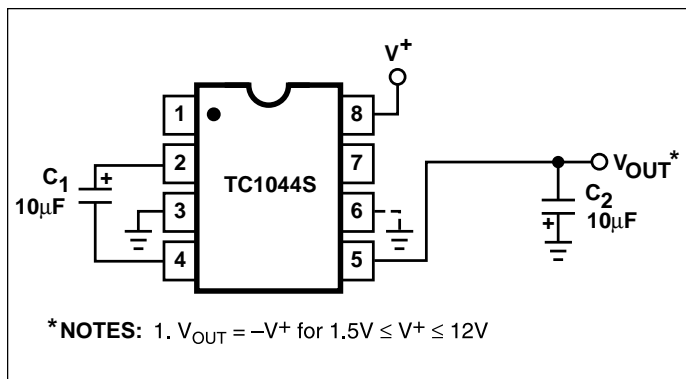
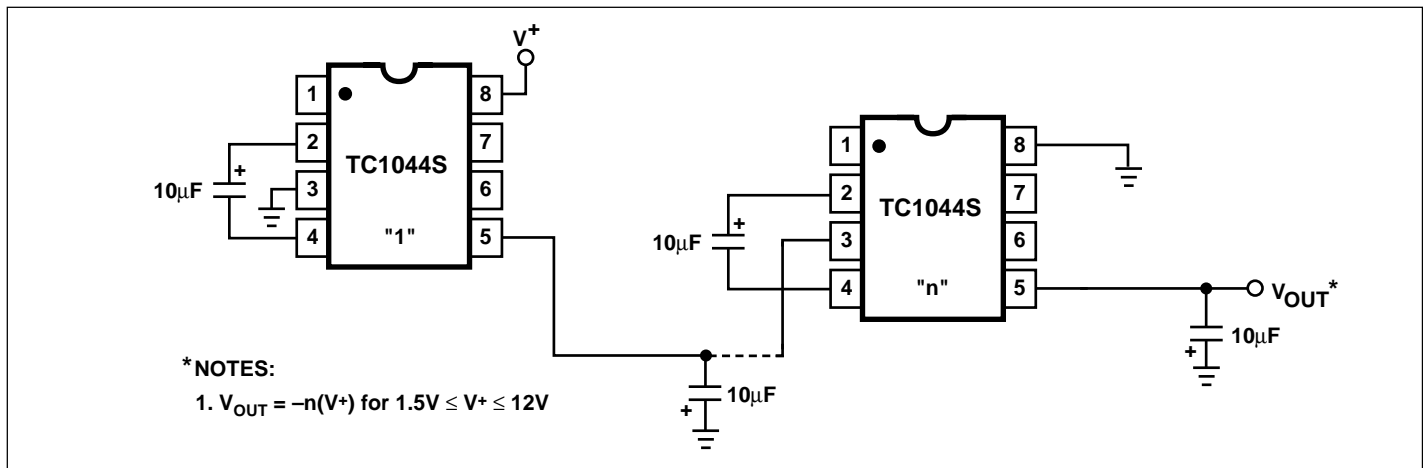
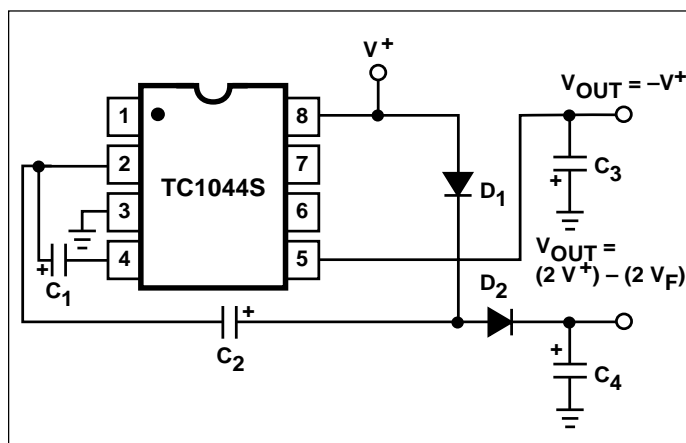
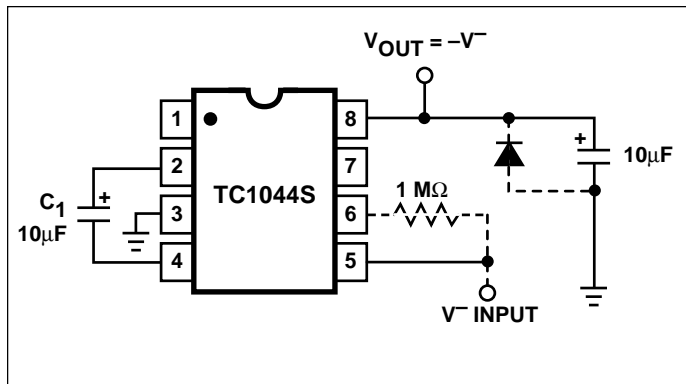

Figure 3. Simple Negative Converter
Figure 5. Increased Output Voltage by Cascading Devices
Figure 9. Combined Negative Converter and Positive Multiplier
Figure 10. Positive Voltage Conversion
Figure 3 shows typical connections to provide a negative supply where a positive supply is available. A similar scheme may be employed for supply voltages anywhere in the operating range of +1.5V to +12V, keeping in mind that pin 6 (LV) is tied to the supply negative (GND) only for supply voltages below 3.5V.
The output characteristics of the circuit in Figure 3 are those of a nearly ideal voltage source in series with 70Ω . Thus, for a load current of -10mA and a supply voltage of $+5\text{V}$, the output voltage would be -4.3V .
The TC1044S may be cascaded as shown (Figure 5) to produce larger negative multiplication of the initial supply voltage. However, due to the finite efficiency of each device, the practical limit is 10 devices for light loads. The output voltage is defined by:
Figure 9 combines the functions shown in Figures 3 and 8 to provide negative voltage conversion and positive voltage multiplication simultaneously. This approach would be, for example, suitable for generating +9V and -5V from an existing +5V supply. In this instance, capacitors C_1 and C_3 perform the pump and reservoir functions, respectively, for the generation of the negative voltage, while capacitors C_2 and C_4 are pump and reservoir, respectively, for the multiplied positive voltage. There is a penalty in this configuration which combines both functions, however, in that the source impedances of the generated supplies will be somewhat higher due to the finite impedance of the common charge pump driver at pin 2 of the device.
Since the switches that allow the charge pumping operation are bidirectional, the charge transfer can be performed backwards as easily as forwards. Figure 10 shows a TC1044S transforming -5V to +5V (or +5V to +10V, etc.). The only problem here is that the internal clock and switch-drive section will not operate until some positive voltage has been generated. An initial inefficient pump, as shown in Figure 9, could be used to start this circuit up, after which it
will bypass the other (D_1 and D_2 in Figure 9 would never turn on), or else the diode and resistor shown dotted in Figure 10 can be used to "force" the internal regulator on.
The same bidirectional characteristics used in Figure 10 can also be used to split a higher supply in half, as shown in Figure 11. The combined load will be evenly shared between the two sides. Once again, a high value resistor to the LV pin ensures start-up. Because the switches share the load in parallel, the output impedance is much lower than in the standard circuits, and higher currents can be drawn from the device. By using this circuit, and then the circuit of Figure 5, +15V can be converted (via +7.5V and -7.5V) to a nominal -15V, though with rather high series resistance (~250Ω).